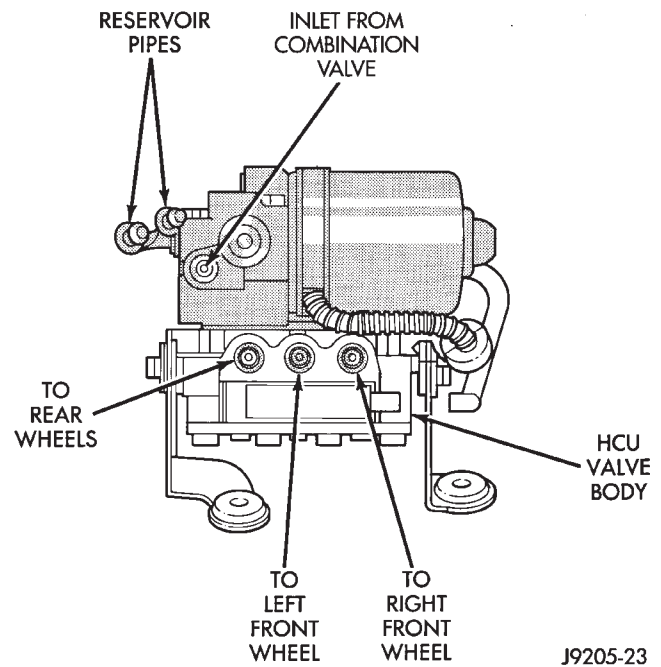
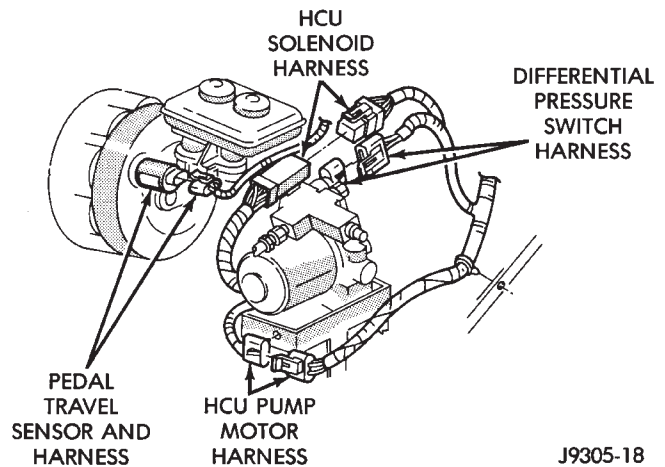

Fig. 8 HCU Hydraulic Line Connections
Fig. 9 HCU Harness Connectors
(1) Connect master cylinder reservoir hoses to HCU pipes.
(2) Position HCU assembly on mounting bracket and install attaching nuts. Tighten nuts to 12 N•m (102 in. lbs.) torque.
(3) Connect hydraulic lines and hoses to HCU (Fig. 8). Fitting nuts and bosses on valve body ports are color coded. Be sure lines are properly connected. Tighten line fittings to 12 N•m (106 in. lbs.) torque.
(4) Install and connect combination valve. Tighten brakeline fittings at valve to 21 N•m (185 in. lbs.) torque
(5) Connect harness wires to HCU (Fig. 9).
(6) Check routing of HCU lines/hoses. Be sure lines are not kinked and are clear of engine components.
- (7) Connect battery negative cable.
- (8) Fill master cylinder reservoir with fresh Mopar DOT 3 brake fluid or equivalent.
- (9) Bleed brake system. Refer to brake bleeding and adjustments section for procedure.
- (10) Install air cleaner and hoses.
- (11) Install windshield washer fluid reservoir.
- (12) Check brake pedal action before moving vehicle. Bleed brakes again if pedal is not firm (feels soft/spongy).